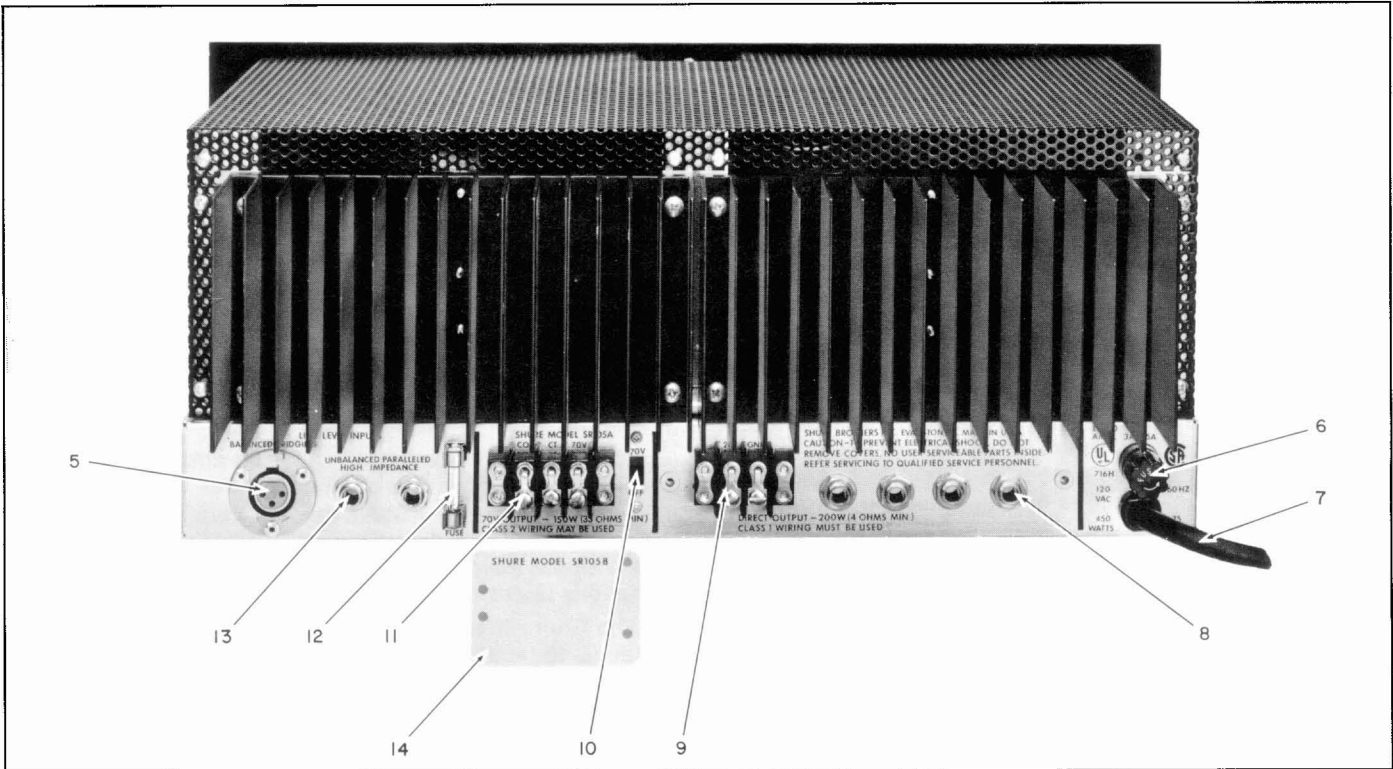

FIGURE 2. SR105 POWER AMPLIFIER REAR PANEL (SR105A MODEL SHOWN)
Three LINE LEVEL INPUTS Connectors are located on the rear panel of the Amplifier (see Figure 2, Page 2). A professional, three-pin, female audio connector (5)* provides a balanced bridging, high-impedance input connection. Unbalanced, high-impedance input connections are provided by two standard ¼" phone jacks (13) wired in parallel.
Four standard 1/4" phone jacks (8) and one two-terminal barrier strip (9) on the rear panel of the Amplifier provide direct-coupled speaker output connections (see Figure 2, Page 2). All connectors are wired in parallel and provide for simultaneous connection of a number of speaker systems. A three-terminal barrier strip (11), labeled 70V OUTPUT (SR105A Amplifier only), provides for connection to the 70-volt output of the Amplifier (see Figure 2, Page 2). This output is present only when the 70V-OFF Switch (10) is set to the 70V position.